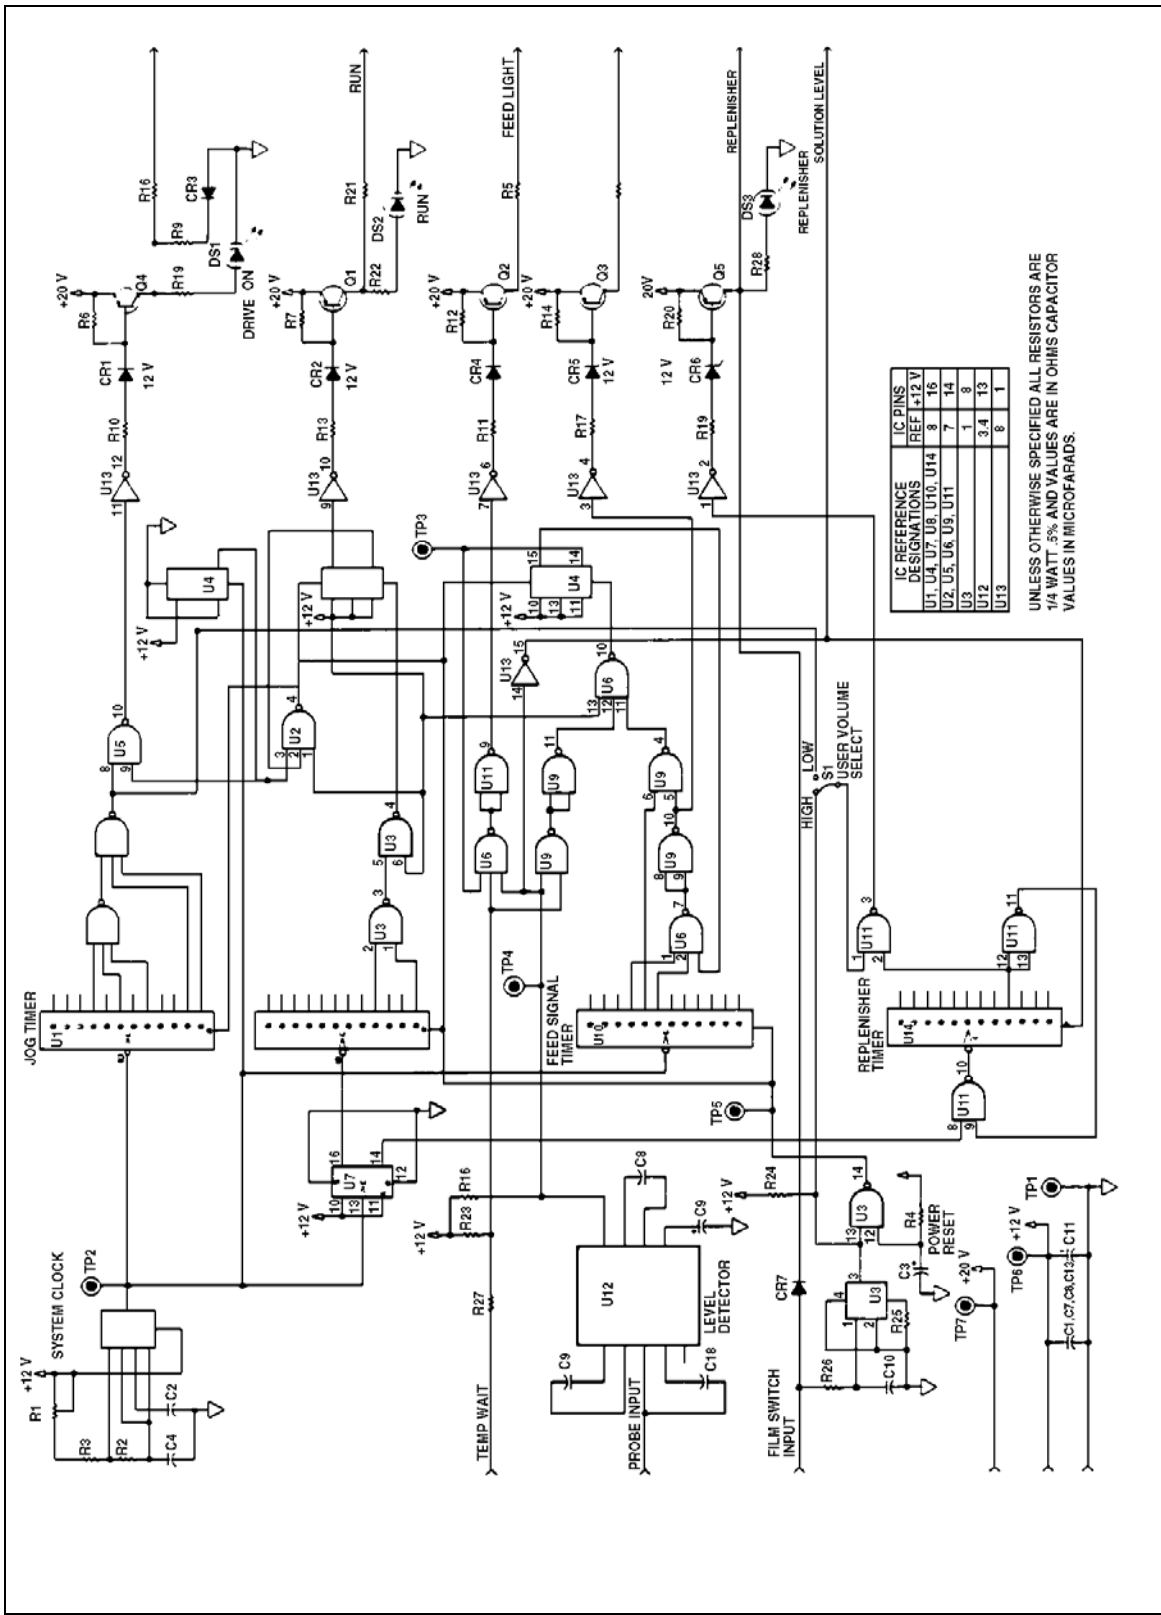

Figure 4-3. Timing control board.
c. Timing Control Board Function. Refer to figure 4-3.
(1) The timing board contains the developer level sensing circuitry.
(2) The timing board accepts the film switch input and responds by turning on the replenisher pump.
(3) The timing board has a system clock which controls the time ratio of the following timers.